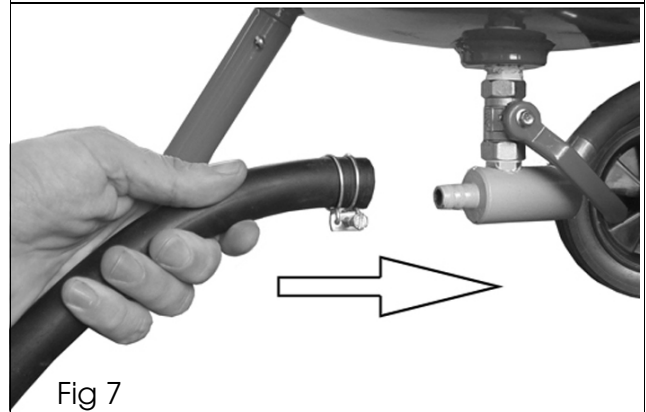

Fig 7
1. Slide the hose onto the outlet at the bottom of the sandblaster as shown in Fig 7.